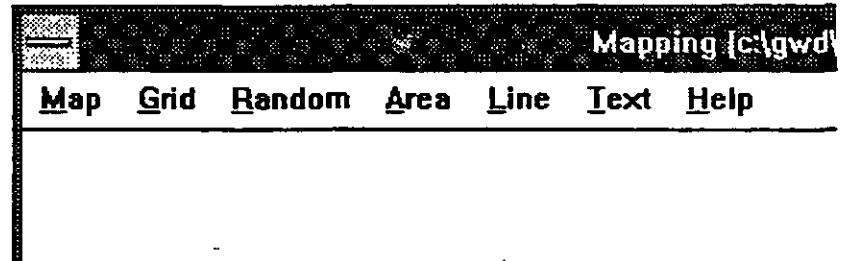

Figure 15-1
15.1.2. Application's Content As shown in Figure 15-1, the Mapping application is comprised of the following major options: